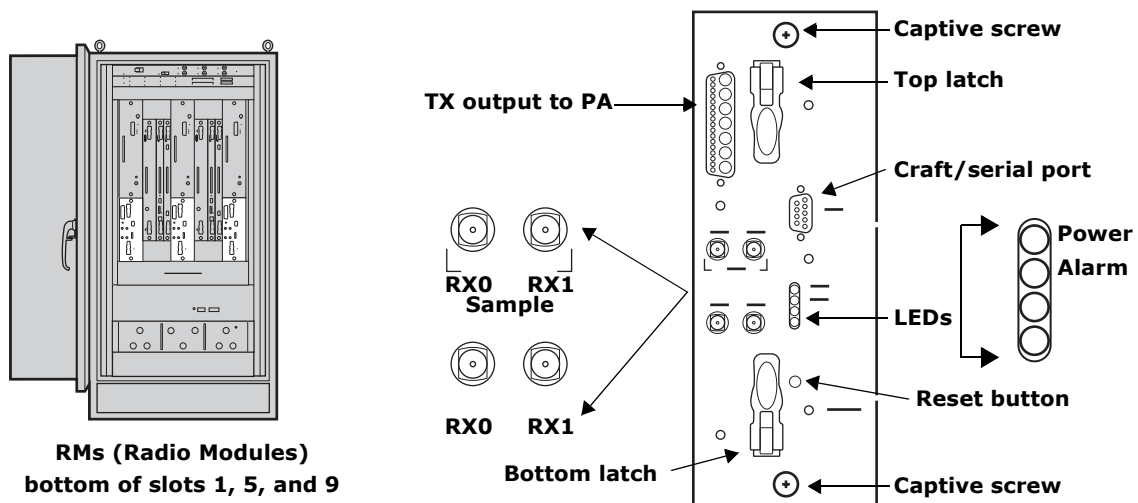

Figure 7 Radio Module
The Radio Module (RM) is one of two modules that make up the Sector Radio Kit. See Figure 7 and Table 9. The RM provides modulation, demodulation, and radio frequency conversion services for a single radio sector. Typical deployments supporting 360 degree radio coverage require three RMs. The RM is installed in the bottom part of slots 1, 5, or 9, depending on the sector.